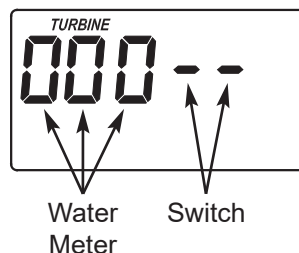

FIG. 35
3. The letter "P" and a dash (or dashes) indicate POSITION switch operation (See Figure 35). If the letter appears, the switch is closed. If the dash shows, the switch is open.